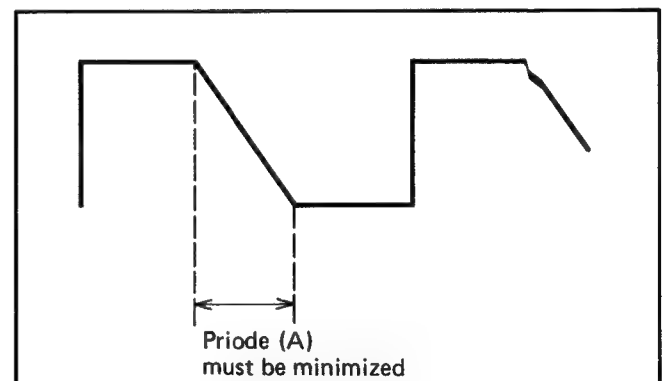

Fig. 10
6. Adjust the VR5104, so that the priode (A) on the waveform is minimized as shown in Fig. 10.